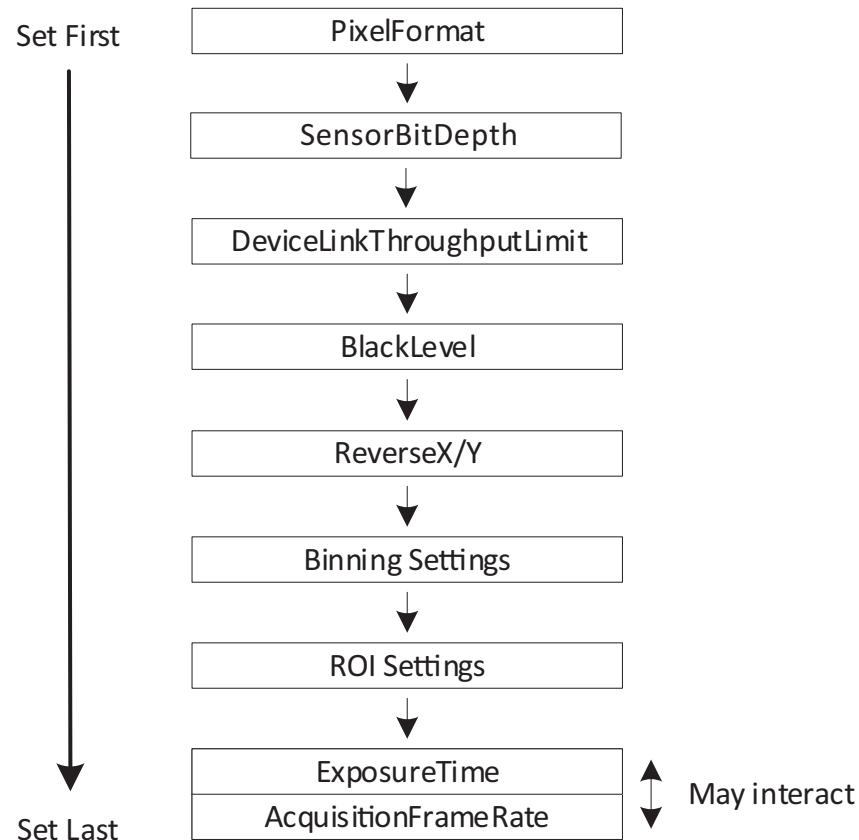

Figure 69: Interdependencies between features
The conversion between time and clock cycles affects control values. Features for pixel format, bandwidth, ROI, exposure time, and triggering are related to each other. Changing values for one feature can change values for another feature. For example, frame rates can be reduced when `PixelFormat` is changed subsequently. Figure 69 shows the interdependencies.
- To avoid readjustments, apply settings in the order shown in Figure 69.